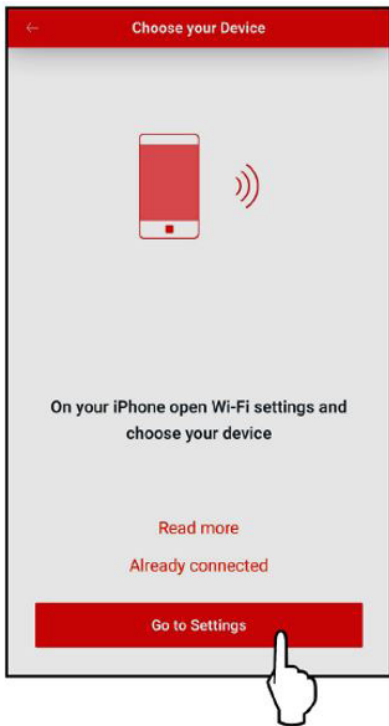

Figure 97. Go to Settings
- 4. Press the "Go to Settings" button on the "Choose your Device" screen. See Figure 97.